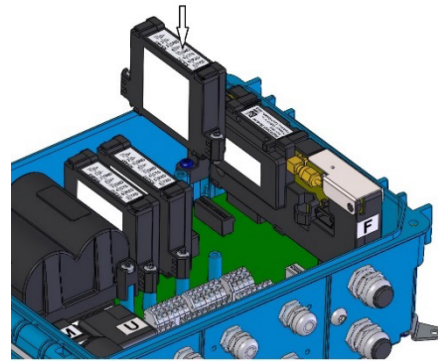

Fig. 50: Insert module
- Attach the module to the posts and press it gently into the connector on the system board (see fig. 50). Tighten the screws. The module is impossible to be installed in a wrong slot. If the module is difficult to plug in, do not use greater force, but check the correct position and orientation of the module.